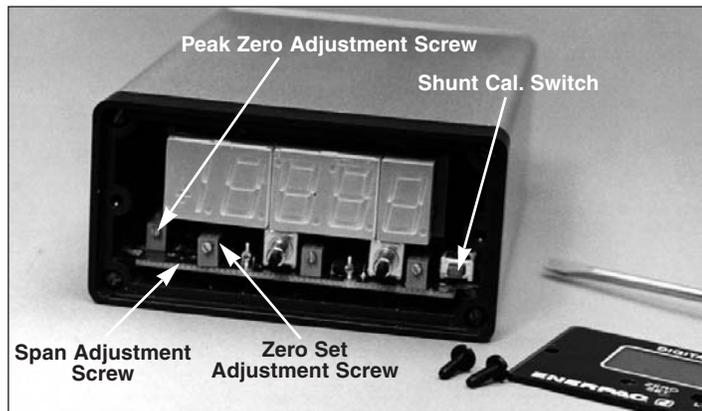

Figure 19
- Apply a load (10,000 psi) to the tester. Check the gauge reading, it should match the load value. If not, adjust the span adjusting screw until the display is correct (Figure 19).
- The peak limit gauges should display all zeros when the peak control switch is moved from left to right position and no pressure applied. If the display shows anything else adjust the peak zero adjustment screw (Figure 19).
- Remove the face plate. Connect the power supply and the transducer. With no pressure on the system, adjust the speak zero adjusting screw (furthest adjusting screw on left side, Figure 19) until gauge reads all zeros with toggle switch in right position.